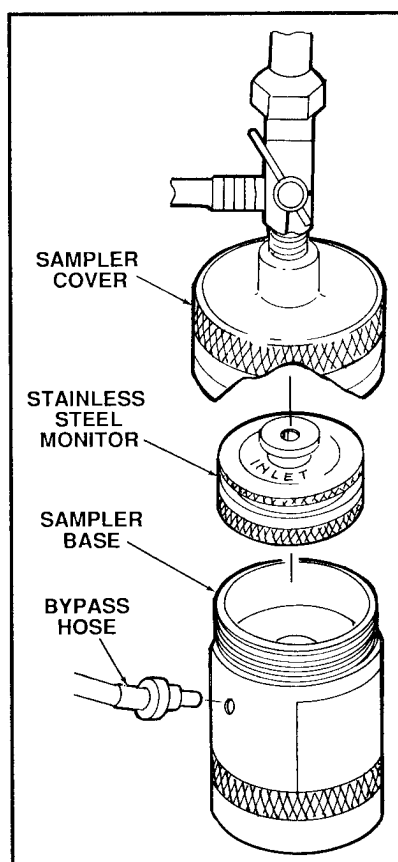

Figure 2.35 Removing Monitor from Sampler
- e. Disconnect the bypass hose from the side of the sampler and unscrew the sampler base. Hold the sampler in an upright position and remove the stainless steel monitor (Figure 2.35).